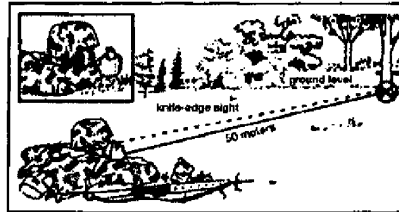

Figure 071-325-4425-6. Aiming knife-edge sight
d. Select an aiming point at ground level about 50 meters (150 feet) in front of the mine (figure 071-325-4425-6).